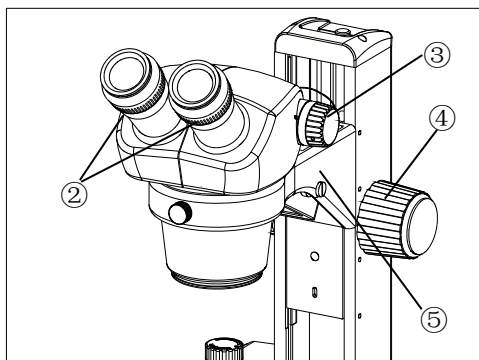

Fig. 8
3.1.2 Adjusting diopter ring (Fig.8)
- 3 . Rotate the zoom body knob ③ to the highest magnification 4.5 \times , and turn the focusing knob ④ to focus the specimen.
- 4 . Rotate the zoom body knob ③ to the lowest magnification 0.7 \times , looking only into the left eyepiece, adjust the diopter ring on left eyepiece to focus the specimen. Then do the same thing for the right one.
- 5 . Repeat item 3 and 4 until the specimen image can always focus without any adverse effect of the changes of magnification on the definition of the image.
- The working distance of the microscope is 97mm, the binocular head bracket ⑤ could be mounted onto the higher or lower position according to your needing. Remove the clamping bolt with provided hexagonal driver and move the bracket ⑤ down to the lower position and set it with original bolt (Fig.8).